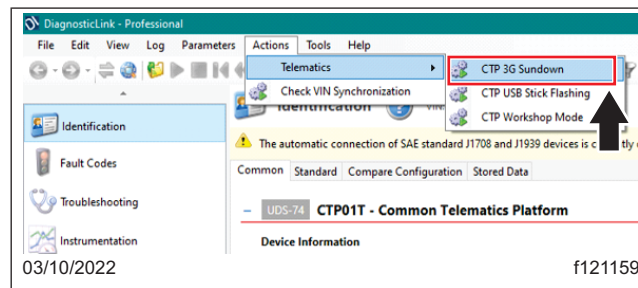
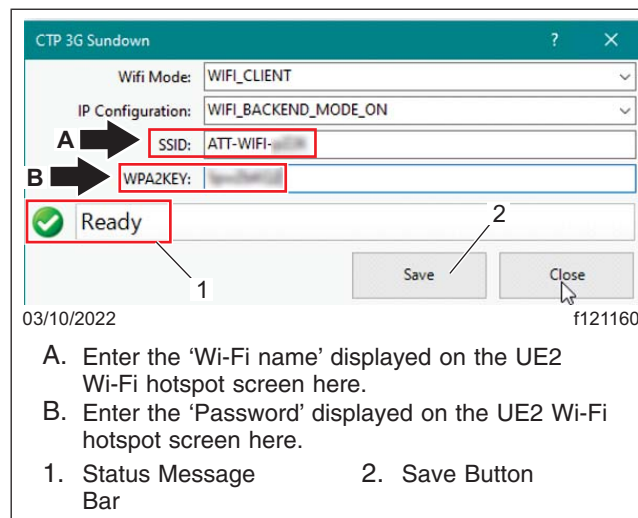

Fig. 35, Selecting CTP 3G Sundown
Fig. 36, CTP 3G Sundown Window
16. Within the upper tool bar, go to 'Action,' 'Telematics,' then select 'CTP 3G Sundown.' In the 'CTP 3G Sundown' window that appears, verify a green dot with 'Ready' message appears at the bottom of the window. See Fig. 35 and Fig. 36.
17. In the 'CTP 3G Sundown' window enter the following parameters. See Fig. 36.